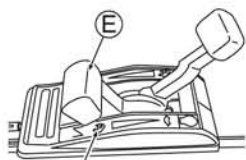

Fig. 17
2. Set Throttle lever (E) to "STOP" to start mowing. (See Fig. 17)